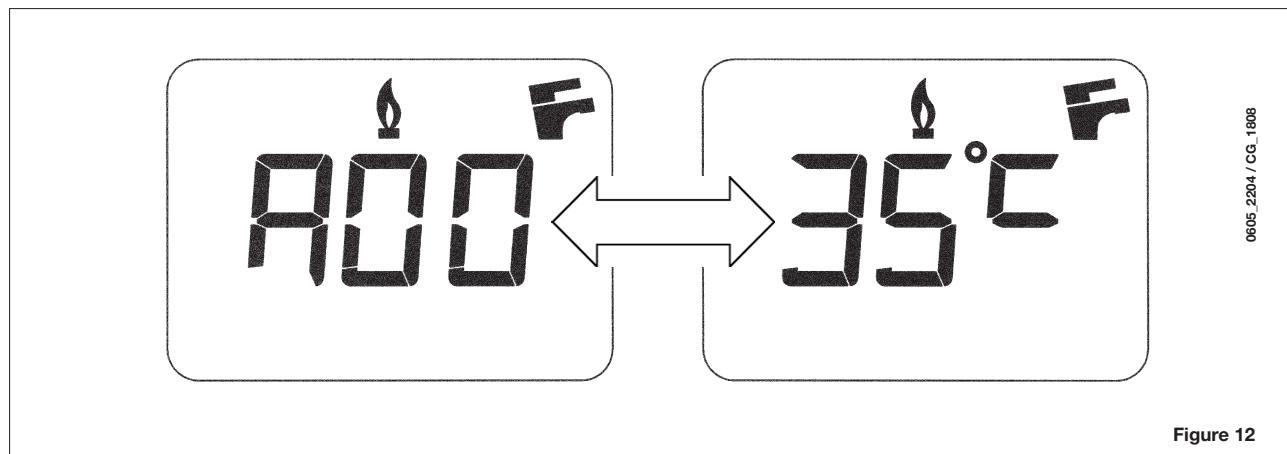

Figure 12
**NOTE:** when the "INFO" function is enabled, the message "A00", alternating with the boiler delivery temperature, is shown on the display (figure 12):